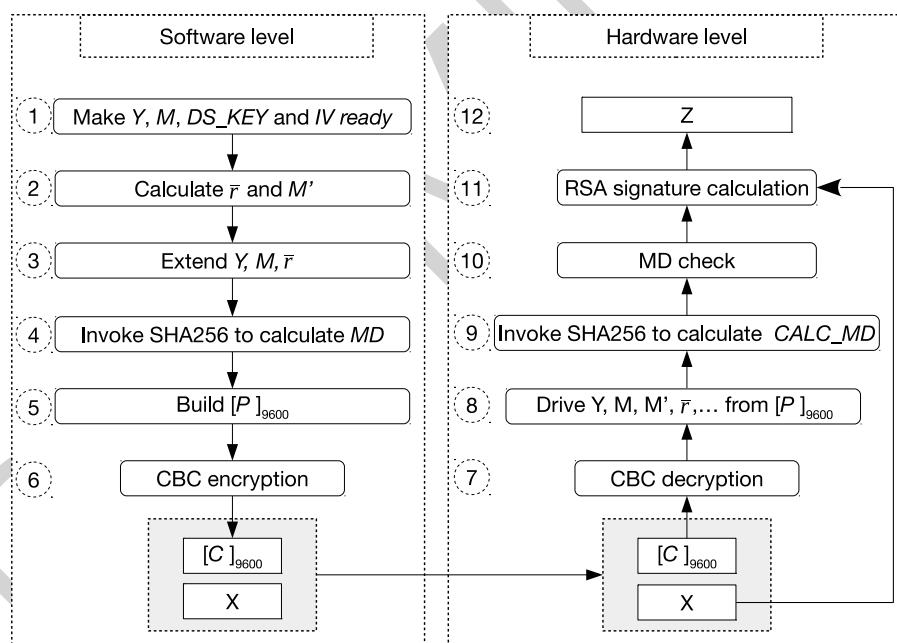

Figure 20-1. Software Preparations and Hardware Working Process
If users want to use the DS module for digital signature, the software and hardware must work closely to implement this successfully, and the software needs to do a series of preparations, as shown in Figure 20-1. The left side lists preparations required by the software before the hardware starts RSA signature calculation, while the right side lists the hardware workflow during the entire calculation procedure.
1. The software preparation (left side in the Figure 20-1) is a one-time operation before any signature is calculated, while the hardware calculation (right side in the Figure 20-1) repeats for every signature calculation.
You need to follow the steps shown in the left part of Figure 20-1 to calculate C . Detailed instructions are as follows:
1. Decryption: Step 7 and 8 in Figure 20-1
The decryption process is the inverse of Step 6 in figure 20-1. The DS module will call AES accelerator to decrypt C in CBC block mode and get the resulted plaintext. The decryption process can be represented by $P = AES\text{-}CBC\text{-}DEC(C, DS_KEY, IV)$, where IV (i.e., $[IV]_{128}$) is defined by you. $[DS_KEY]_{256}$ is provided by HMAC module, derived from $HMAC_KEY$ stored in eFuse. $[DS_KEY]_{256}$, as well as $[HMAC_KEY]_{256}$ are not readable by users.
2. Check: Step 9 and 10 in Figure 20-1
The DS module will perform two checks: MD check and padding check. Padding check is not shown in Figure 20-1, as it happens at the same time with MD check.
3. Calculation: Step 11 and 12 in Figure 20-1